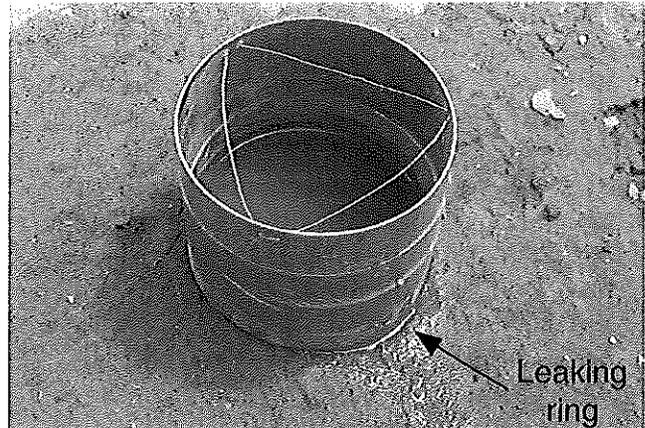

Figure 8.6. Water leaking from the ring.
7. Watch for leaks (Fig. 8.6).
- 7.2 Water should not pond on the soil surface or glisten around the outside edge of the ring (Fig. 8.6). If either of these occurs, the ring is leaking.